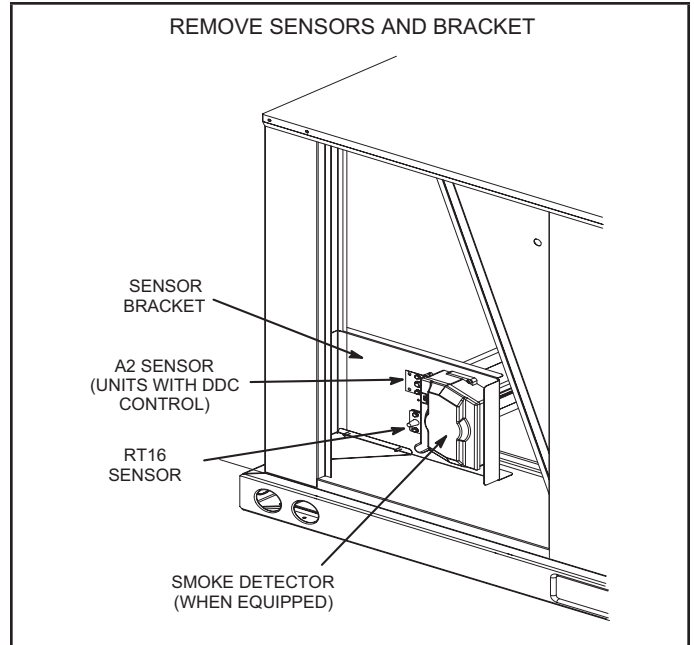

FIGURE 2
- 2 - Remove and retain sensors from mounting bracket. See FIGURE 2. Remove mounting bracket and discard.